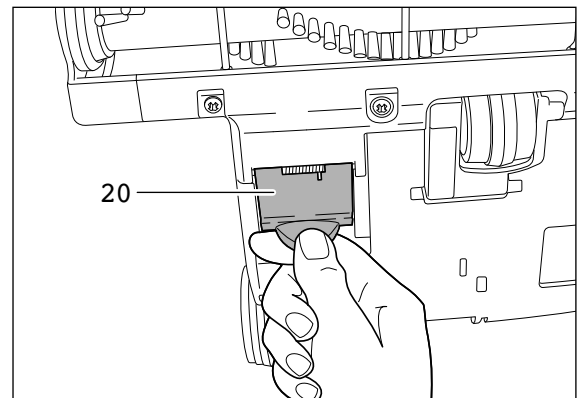

Figure 9
## Clogs in the Airflow Pathway - Figure 9
Check the swivel neck regularly for blockages. Do not open the machine. To check for a clog in the swivel neck (3), remove the telescopic tube by pressing the release button (9). Pull the tube out of the swivel neck. Push the obstruction down the neck with a stick or long screwdriver and remove it through the orange access door (#20, figure 9).